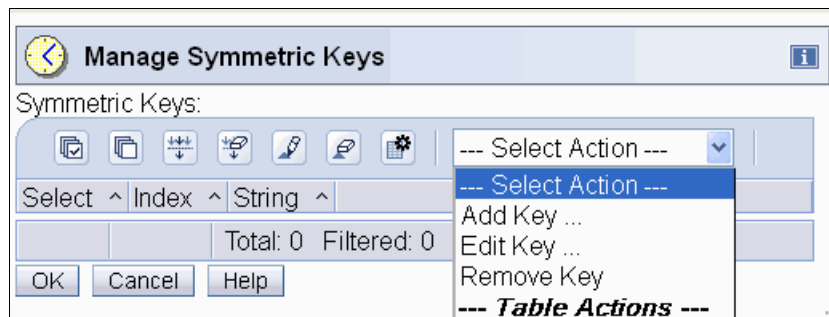

Figure 9-13 HMC: Customize Console Date and Time Add Symmetric keys
3. The Manage Symmetric Keys window opens (Figure 9-13). Click **Select Action** → **Add Key**.